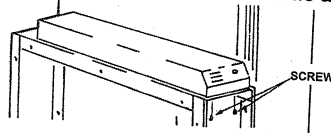

FIGURE 2
6. Remove two screws at the front of the air cleaner (see Figure 2). Put these screws in a safe place. They will be used to reinstall power pack after installation of the electronic air flow sensor.